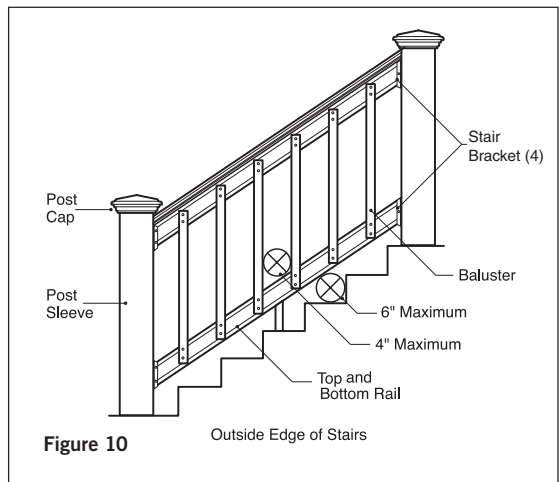

Figure 10
Step 6 Position the bottom rail between posts and center. Check building code requirements for maximum spacing on a staircase, typically less than 6". A 6" ball cannot pass through the triangle formed by the bottom rail, tread and riser (**Figure 10**). Mark the location of the bracket on both posts. Remove rail. Mark the screw locations and pre-drill through the post sleeve only using a 1/4" drill bit. Attach each bracket to the post with two 2" long screws.
Step 10 Traditional, Baroque and Arc balusters: Place a baluster on the rails on-center of one of the marked positions (4-1/2" on-center or 7-1/2" on-center for glass). Make sure the baluster is plumb. Using the baluster as a guide, drill 9/64" holes in the top and bottom rails. Drill and attach baluster with the screws provided. Use a 2x4 spacer block to space next baluster. Drill and attach each baluster to the top and bottom rails with the screws provided. Using a pair of clamps to hold baluster in place while fastening will make this step easier (**Figure 10**).